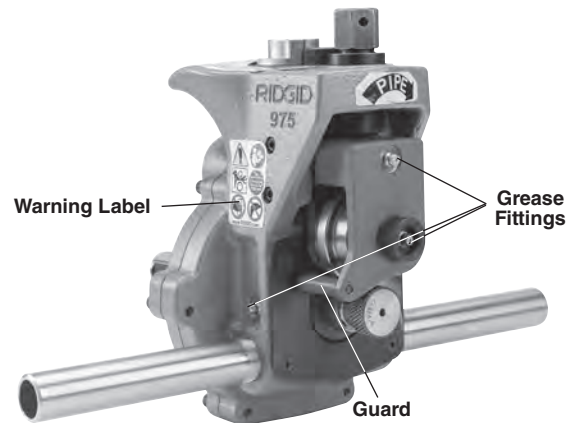

Figure 2 – 975 Combo Roll Groover Warning Label
5. Inspect for the presence and condition of the guard (See Figure 2). Do not operate the roll groover without the guard.
6. Check that the warning label is present and firmly attached. See Figure 2 for the location of the warning label.